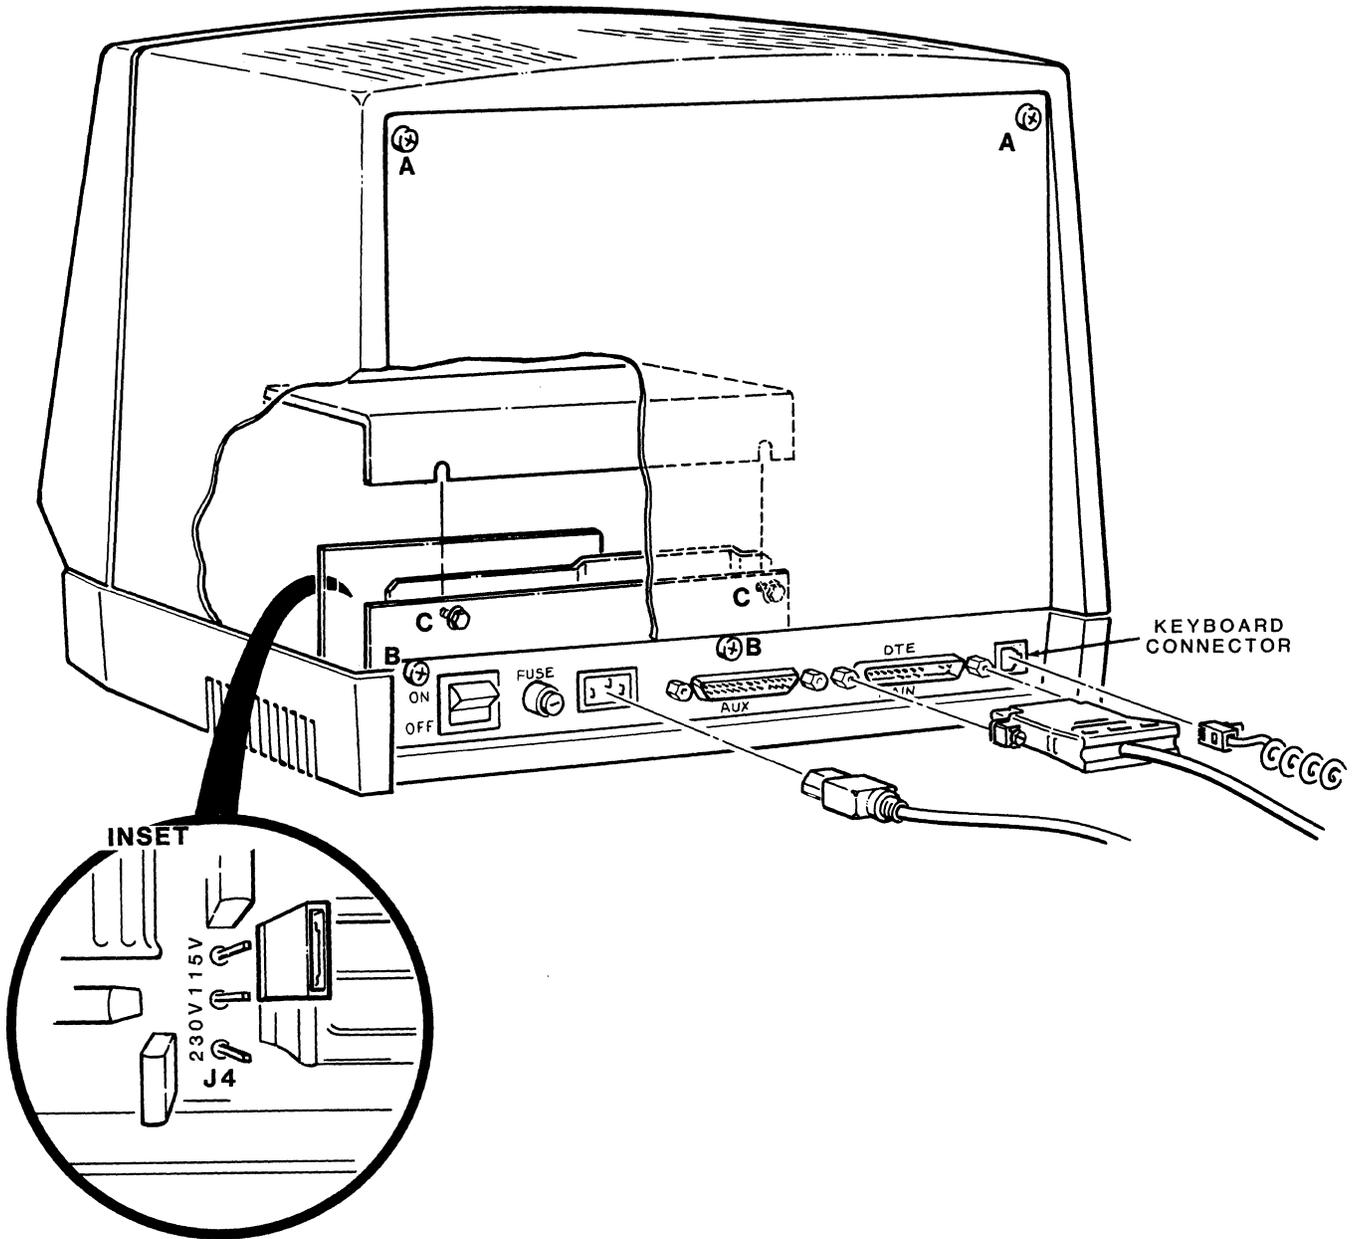

Figure 1.4. Voltage Adjustment
Before connecting the terminal, make sure it is rated for the voltage available in your area. The terminal is wired for 120 VAC. To change the voltage rating to 240 VAC, refer to Figure 1.4 and perform the following six steps:
3. Remove two 6-32 × .375 screws (C) and the cover from the power supply.
4. Figure 1.4 (inset) depicts the jumper used to select either 115 VAC or 230 VAC operating voltage. Pull the jumper straight up and connect the jumper to the pins corresponding to the correct operating voltage.
To install and connect the terminal, refer to Figure 1.4 and complete the following procedure:
Refer to Figure 1.4.